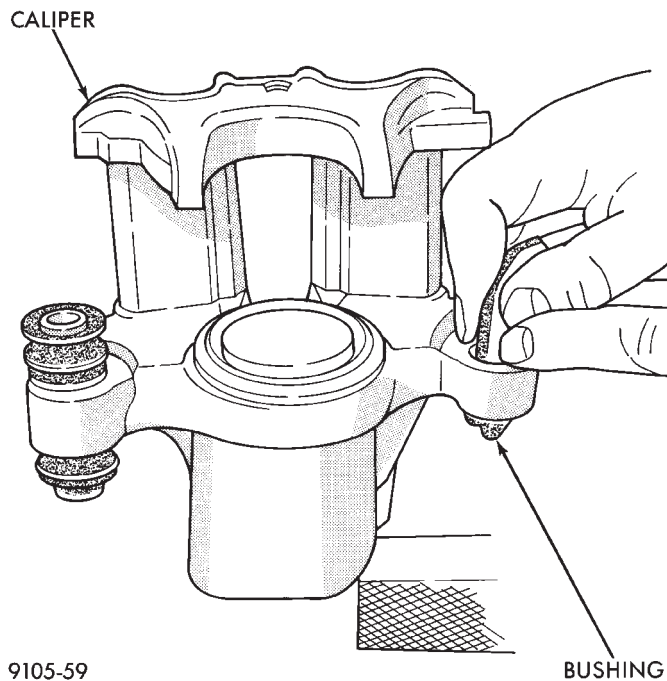

Fig. 156 Installing Caliper Guide Pin Bushing
(2) Insert the folded bushing into the caliper housing (Fig. 156). **Do not use a sharp object to perform this step due to possible damage to the bushing.**